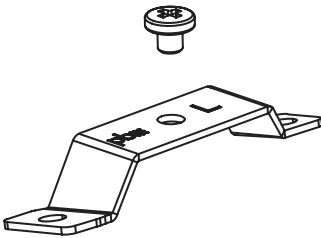

Fig 1
3. Locate both left and right A pillar mounting brackets and hardware. Attach brackets to your new tweeters (Fig. 1) Make sure you use the L bracket for the driver's side and the R bracket for the passenger's side.